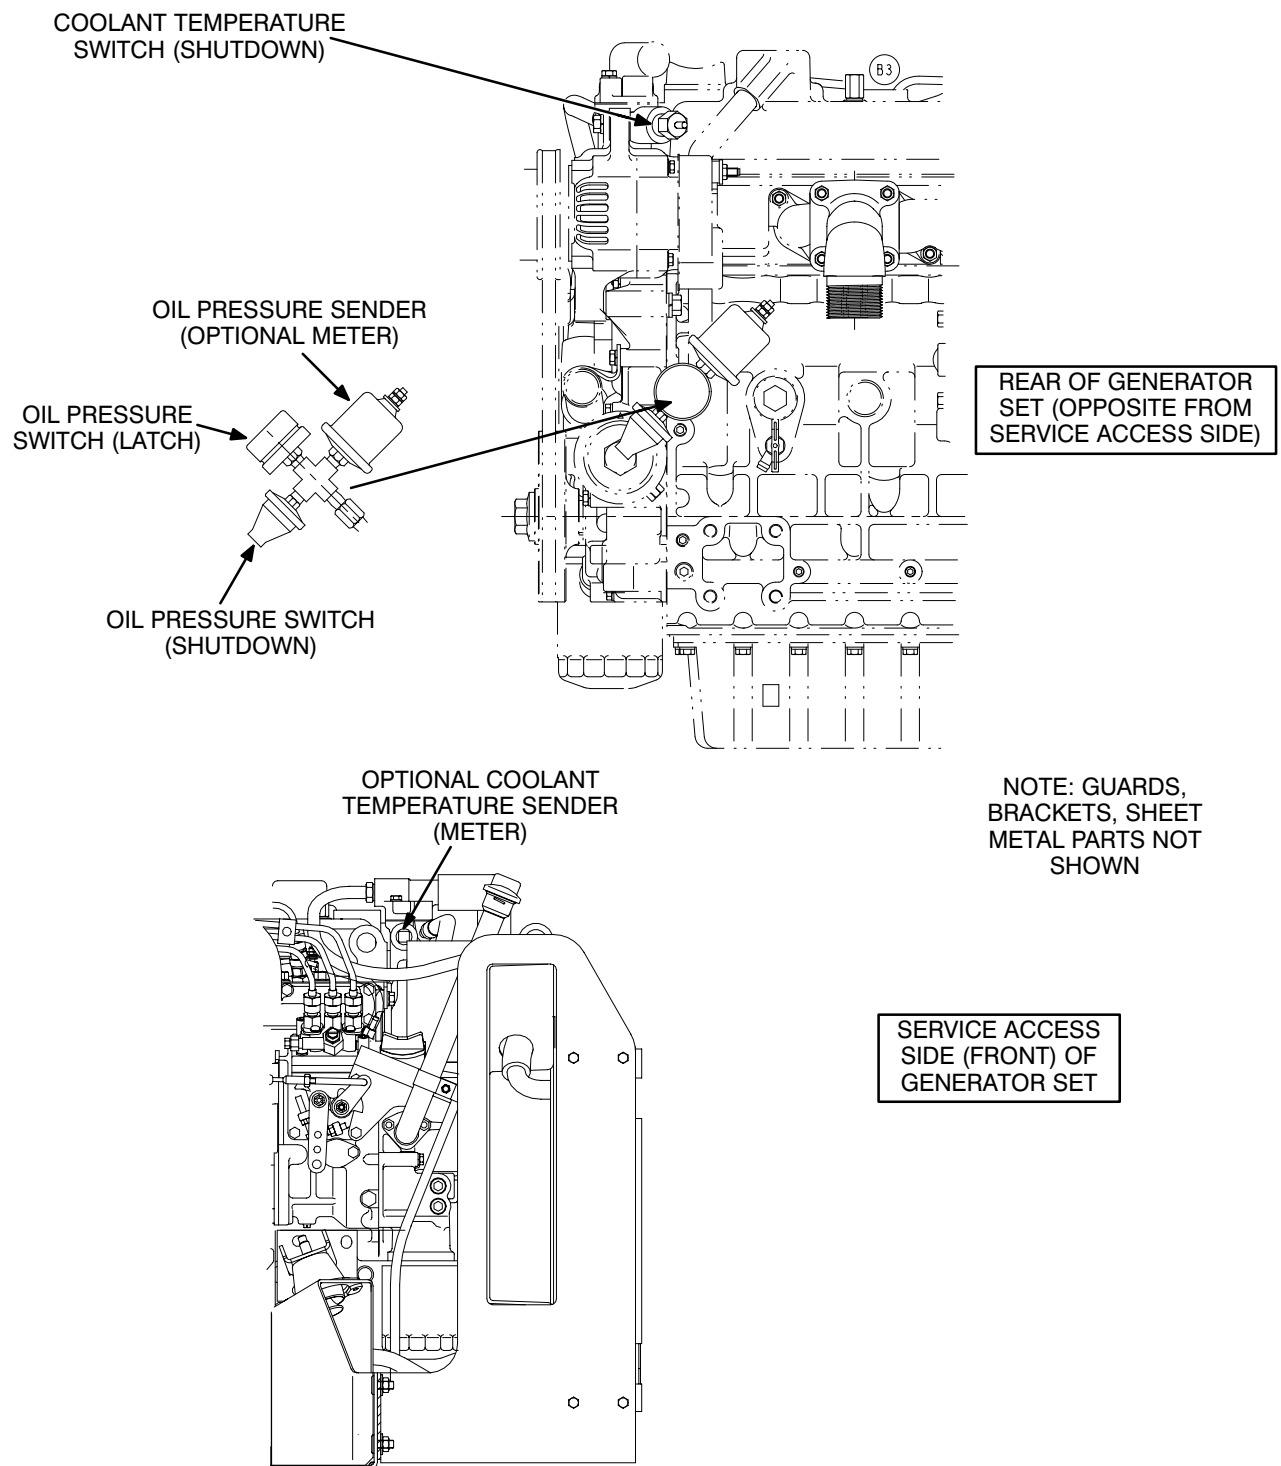
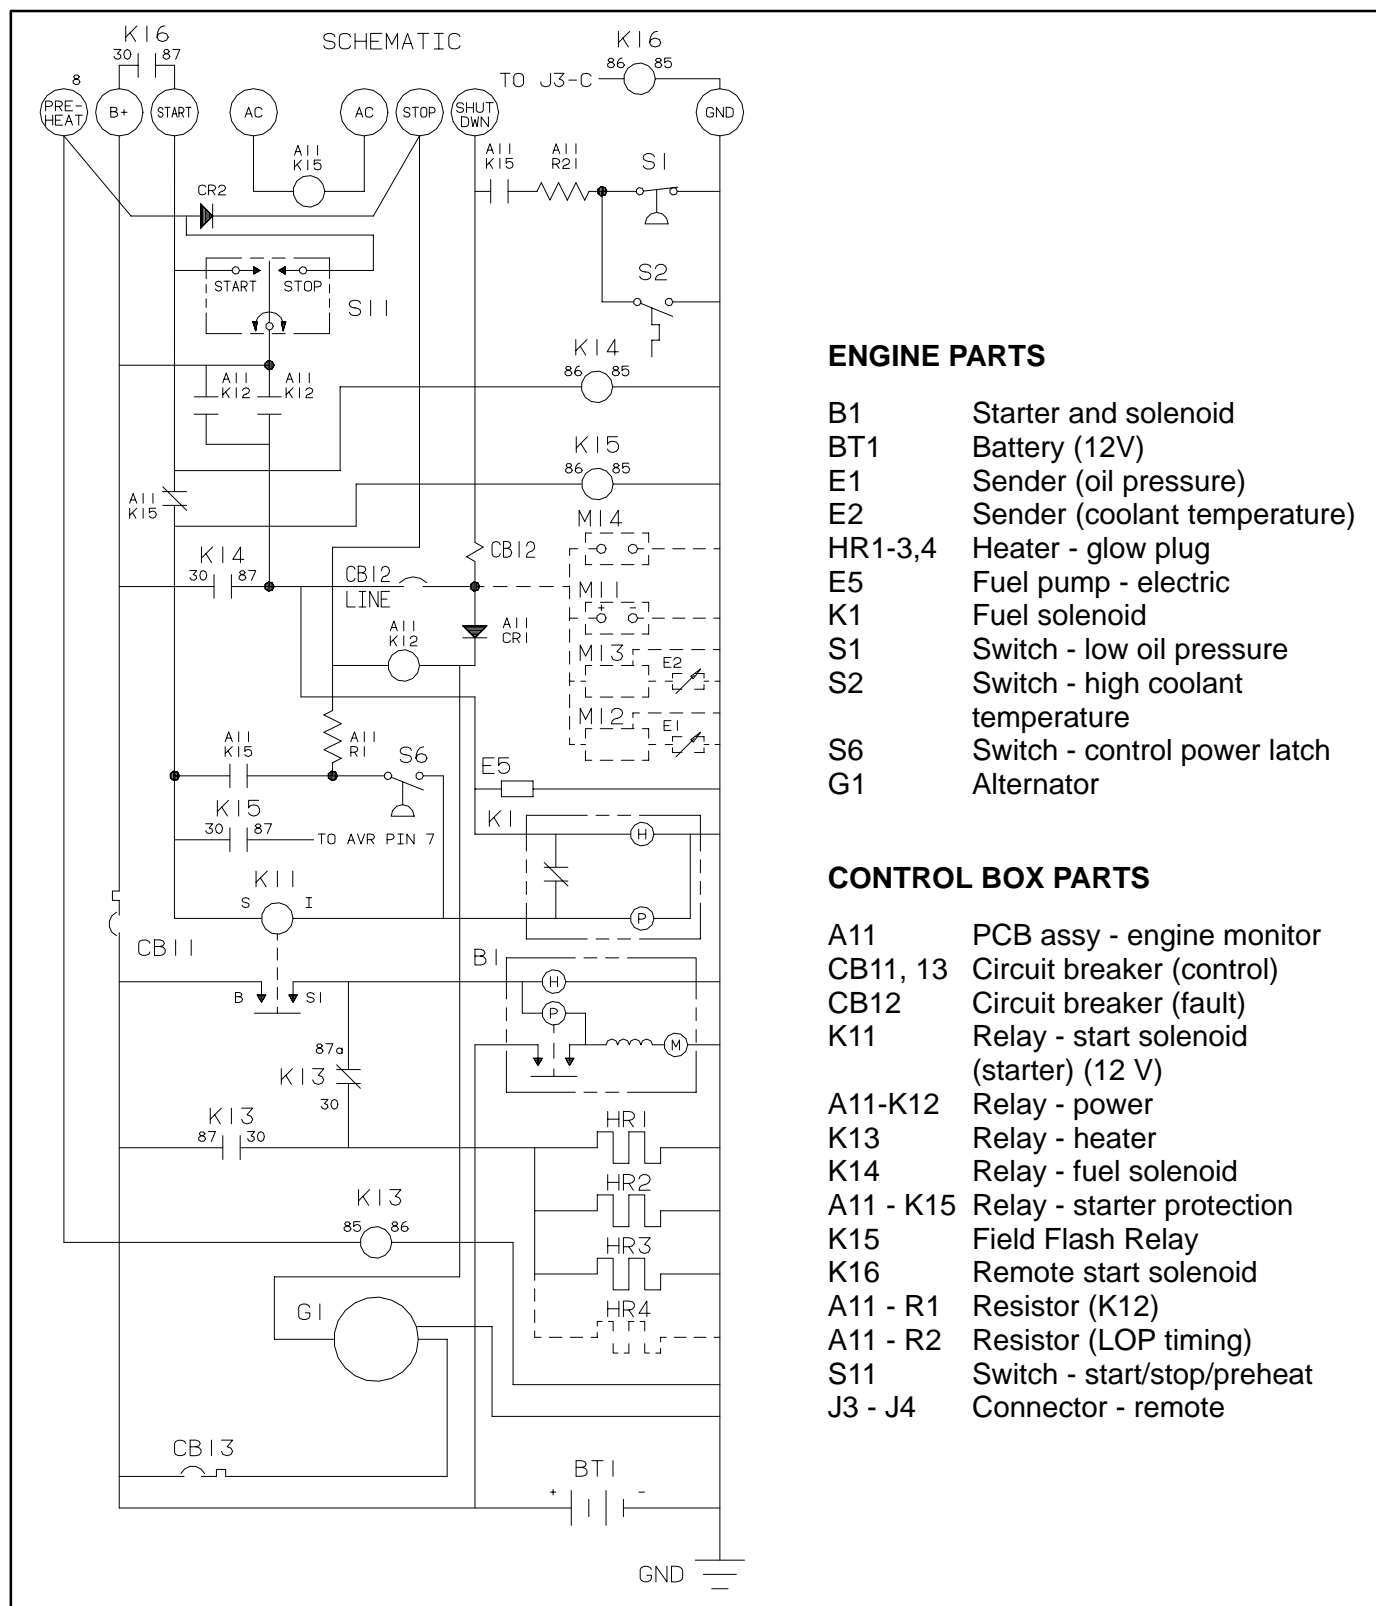

FIGURE 2-2. FAULT SENSOR LOCATIONS
FIGURE 2-3. DC CONTROL SCHEMATIC DIAGRAM
The safety sensors (switches) close the fault circuit to ground if abnormal operating conditions exist, tripping the fault breaker CB12 to stop the engine. See Figure 2-2 and the schematic in Figure 2-3.
Refer to Figure 2-2 for the location of the oil pressure monitors.
Refer to Figure 2-2 for the location of the engine temperature sensors.
To understand control operation, refer to the following text and the schematic diagram (Figure 2-3).
Fault Shutdown: Fault breaker CB12 opens to stop the engine any time a fault sensor closes the circuit to ground. The fault sensors as shown in Figure 2-2 are:
2. Locate S6 (oil pressure switch) on the genset (see Figure 2-2). Find the grounded side of S6, using a continuity tester.